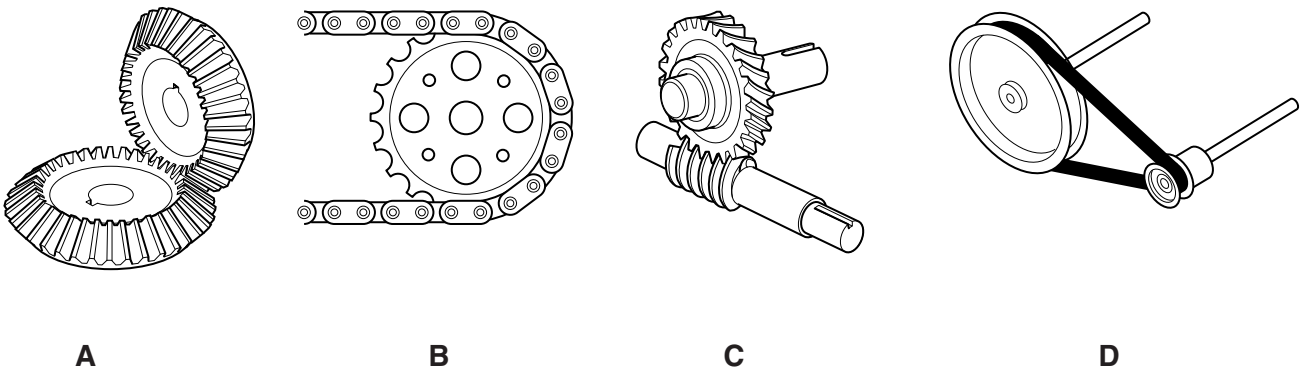

Fig. 5
5 Fig. 5 shows four methods of transferring motion.
- (a) Name the methods of transferring motion shown in Fig. 5. [4]
- (b) For each of the methods shown in Fig. 5, select a different product or application and explain why the method selected is appropriate. [4 × 3]
- (c) For **one** of the methods shown in Fig. 5, explain how the choice of materials affects performance. [4]